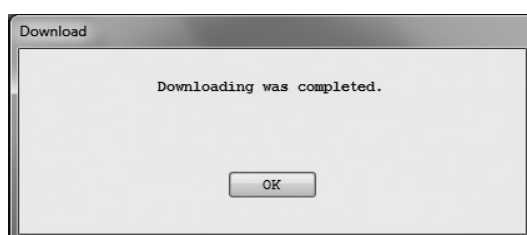

Fig.177
- ⑨ Once the download is complete, a message box (Fig. 177) will be displayed. Click the "OK" button.